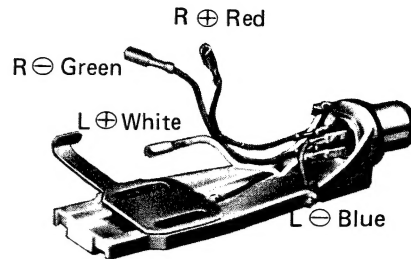

Figure 4
- 2) The Polarities and L/R channel wires are shown in Figure 4. Make connections to the Cartridge following the instructions provided with it (and/or follow the markings on the Cartridge).